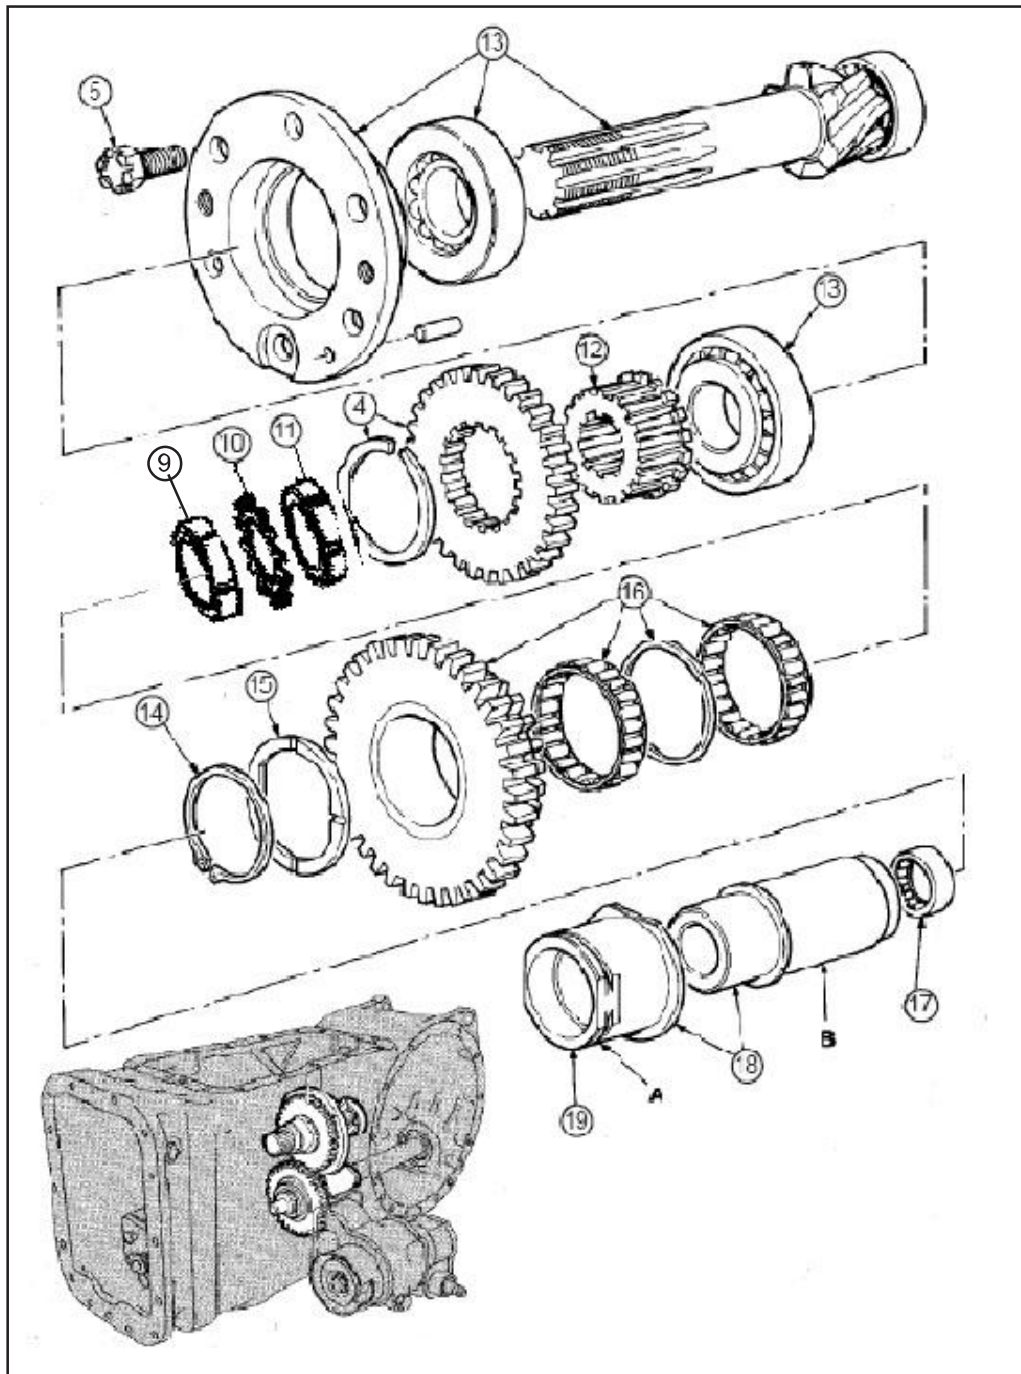

Fig 14
NOTE : Refer to Fig 14.
8. Release the tab washer (Item 10 in Fig 14) from the lock nut by using a cold chisel or screw driver.